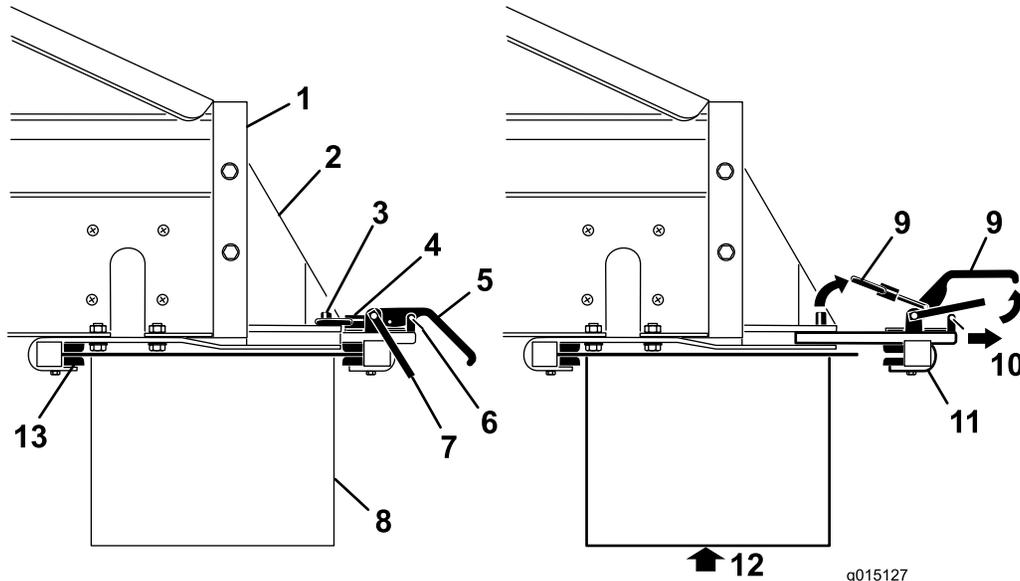

Figure 15
1. Remove the safety latch clips from the clamp handles (Figure 15).
2. Lift the safety latch, then lift the option attachment clamp handles, and release the lock rings from the lock pins (Figure 15).
3. Slide the rear option attachment clamp assembly out of the quick-attach slots (Figure 15).
4. With assistance, insert the front edge of the option attachment up and under the rear of the machine into the front clamps on the brackets (Figure 15).
5. While supporting the option attachment, slide the rear option attachment clamp assembly back into the slots in the brackets, and over the rear edge (Figure 15).
7. Install the safety latch clips to the clamp handles (Figure 15).